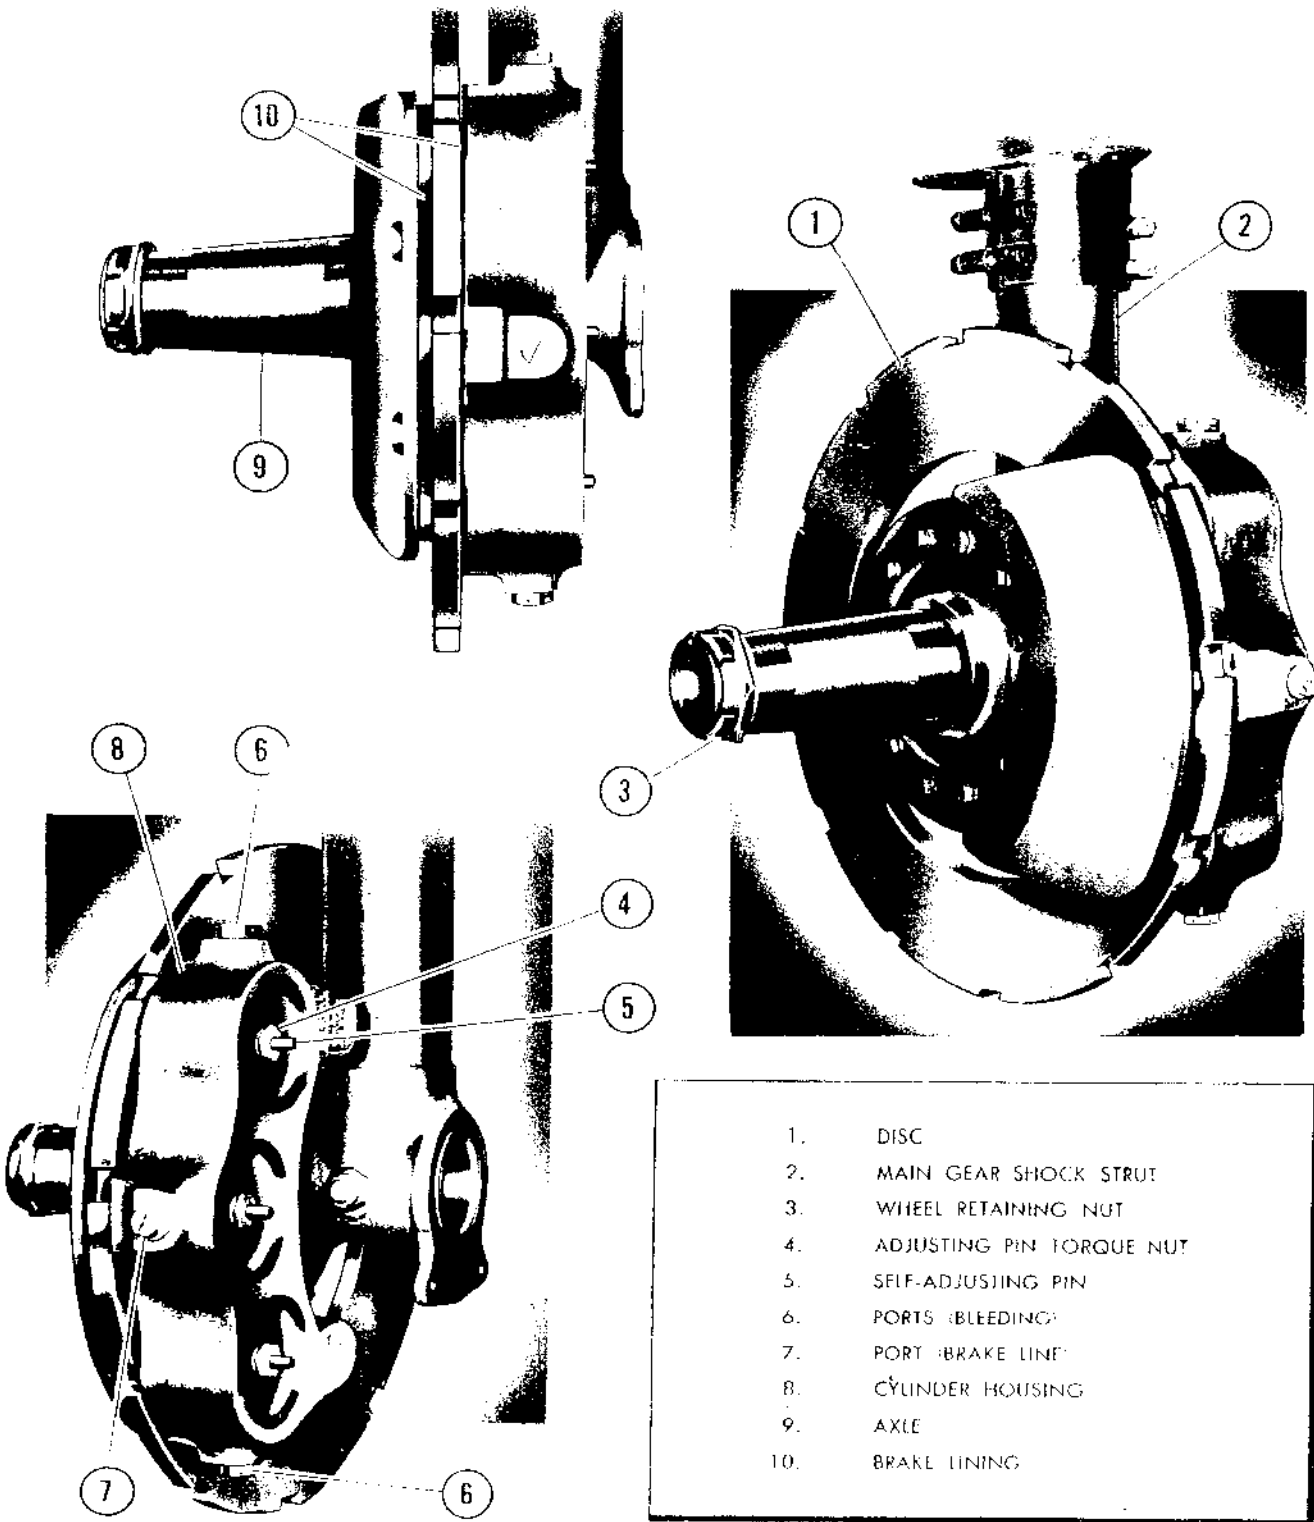

Figure 82 — Brake Assembly
(4) BRAKE ASSEMBLY.
(a) DESCRIPTION. (See figure 82.)—A brake assembly, consisting of a cylinder housing (8) and a disc (1), is mounted on each main alighting gear. The housing is bolted to a flange on the wheel axle, and contains piston assemblies and round linings called "pucks" (10) to effect braking action on the outboard side of the disc. Another opposing puck is placed in contact with the inboard side of the disc. The notched disc is held in place by keys which are part of the wheel. At the time of installation, or upon replacement of the puck, the brake assembly must be adjusted. Other than this adjustment, it needs no further adjustment during the life of the puck. Brake lining clearance remains constant, and the brake pedal remains in the same position with any degree of puck wear.